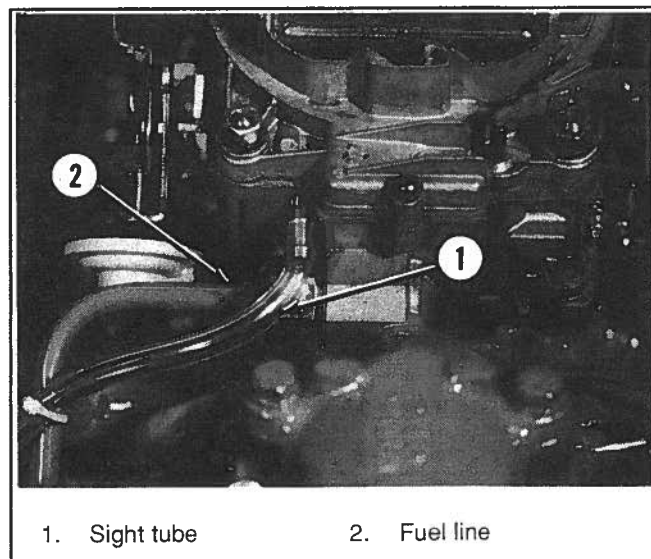

Figure 7-60. *Connecting Fuel Line and Sight Tube*
4. Connect fuel-sight tube (Figure 7-60).